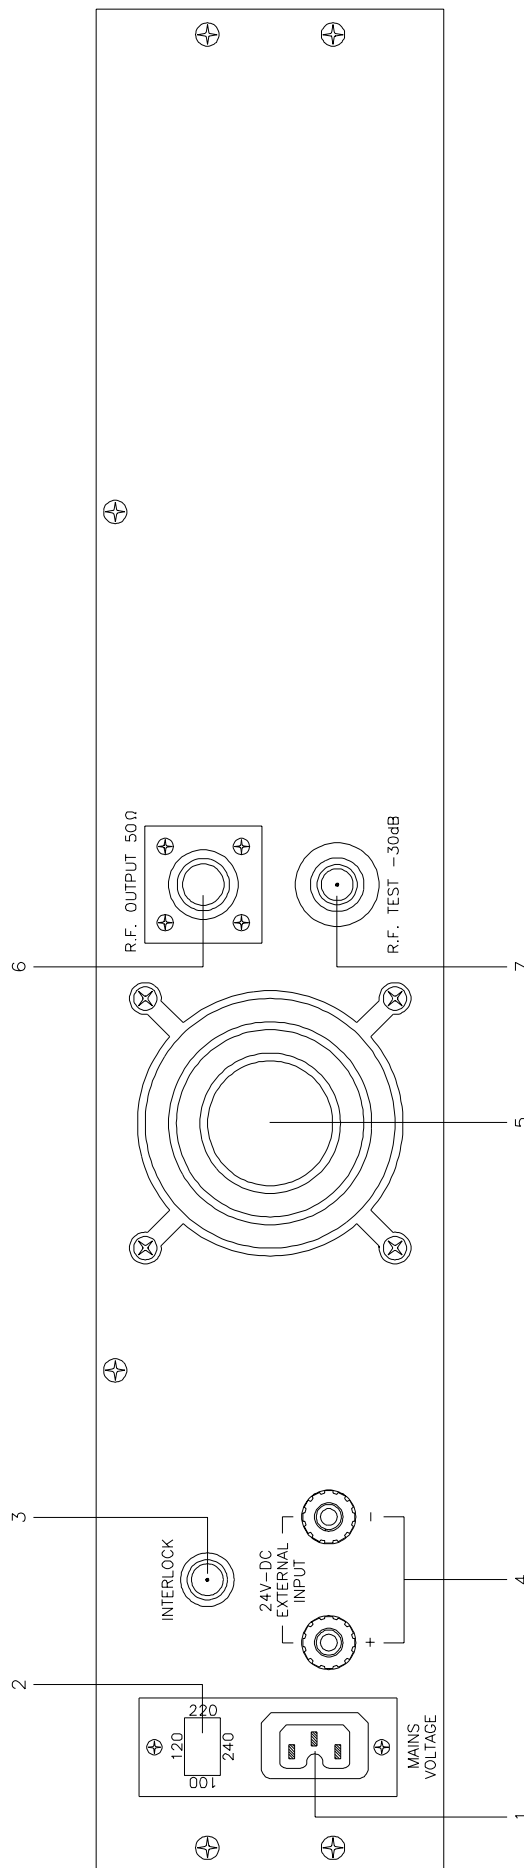

FIG. 2A
"EUROPA" VERSION REAR PANEL DESCRIPTION (FIG. 2A)
1) Check on the rear panel that the line voltage selector is correctly set for the local supply. If not, remove the cover (2 Fig.2A-2B) on which the voltages are printed and rotate it until the required value corresponds to the arrow, and reinsert it.
3) Connect R.F. output connector (6 Fig.2A-2B) to antenna cable.
5) Connect line power to the unit via the VDE socket (1 Fig.2A-2B), switch on the equipment through power selector (9 Fig.1A and 8 Fig.1B).
- 2) Connect a dummy load with a ~~power rating~~ **SETUP 1** of at least 20 W continuous to the RF output (5 Fig.2A and 2B), situated on the rear panel of the unit (SETUP 1).
- 3) Connect a switch, via a cable, to the INTERLOCK connector (3 Fig.2A and 2B) on the rear panel so that the switch is able to short the central conductor to its screen. Leave the switch in the short-circuit position.